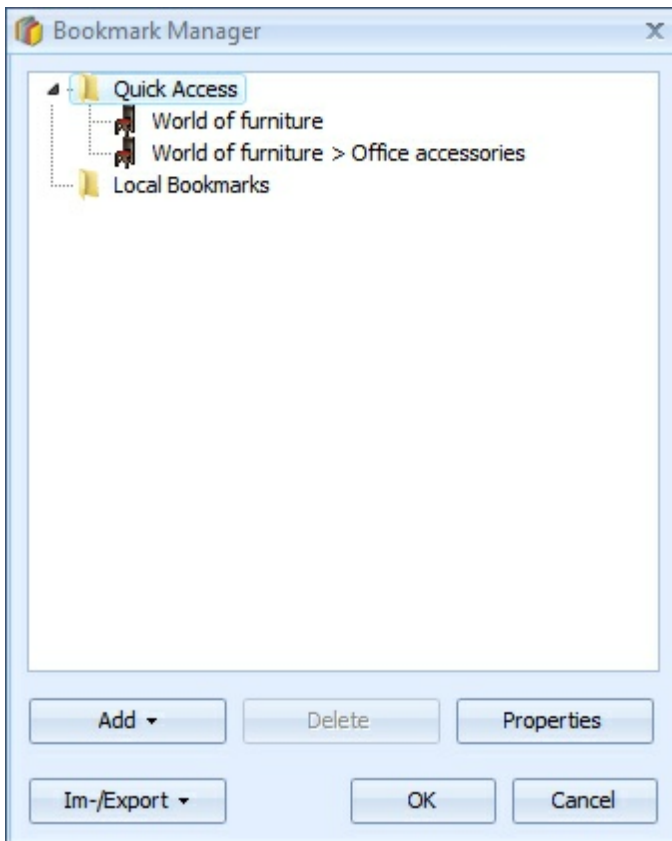

Figure 7
- Application menu / Manage bookmarks (Figure 7).
The Bookmark Manager allows you to **export** your **bookmarks** and to **import** them **in a pCon.planner 6 on another system** or **in pCon.catalog in AutoCAD**. Click "Import / Export" in the Bookmark Manager (Figure 7).